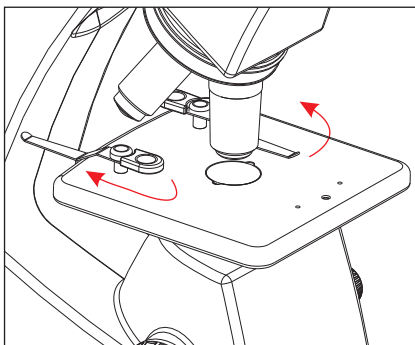

Fig. 3
1. Rotate the stage clips outwards (in direction of arrows) as shown in figure 3.